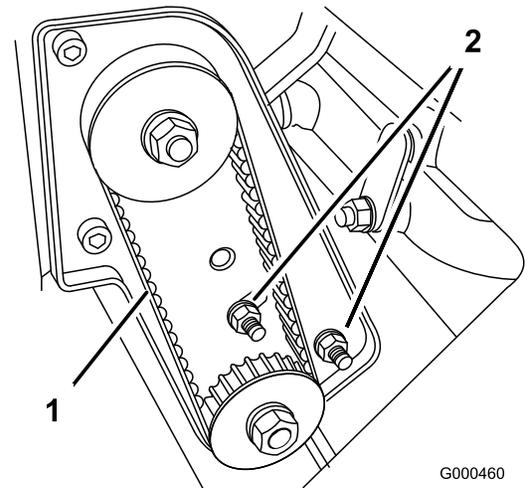

Figure 43
- A. Loosen the bearing housing mounting nuts (Figure 43).
- C. While holding the torque wrench setting, tighten the bearing housing mounting nuts (Figure 43). Do not over-tension belt.